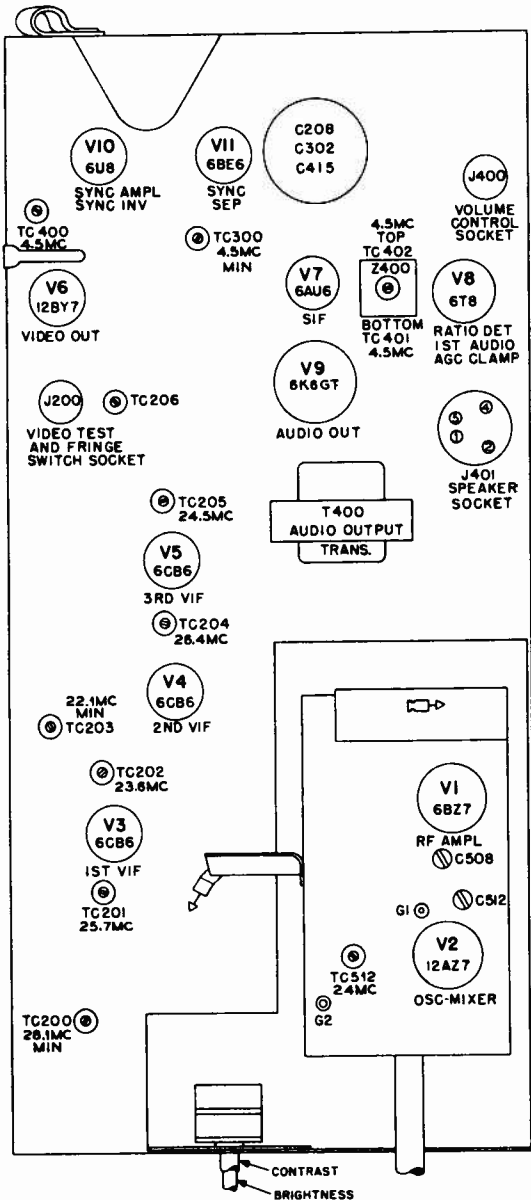

Figure 7. R-F Chassis R-181, Top View, Showing Locations of Adjustments
1. Tune the AM generator to 28.1 mc., and adjust TC200 (see figure 7) for minimum output, as observed on the oscilloscope.